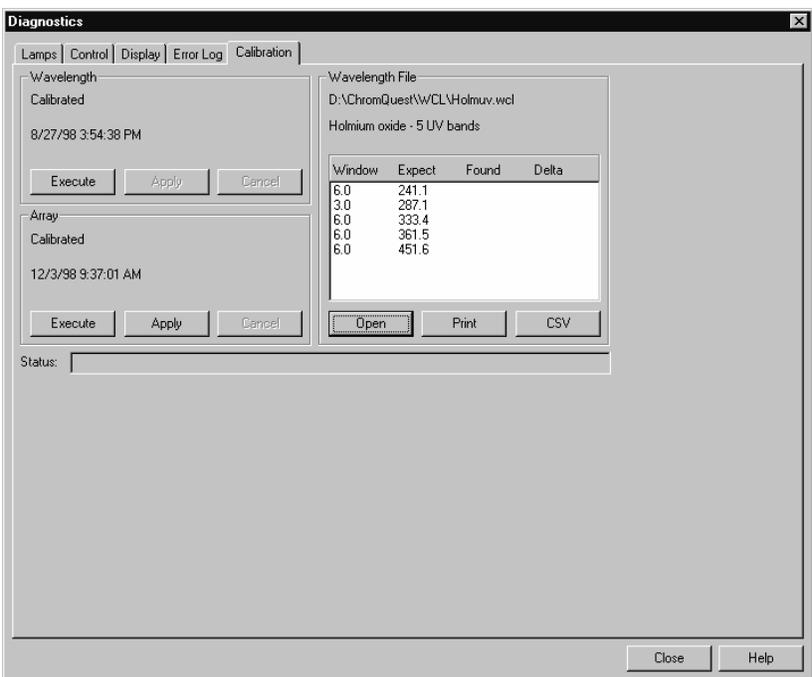

Figure 5.15 Wavelength File Opened
6. The dialog box closes and the file name and its peaks are displayed in the Wavelength File group as shown in Figure 5.15.